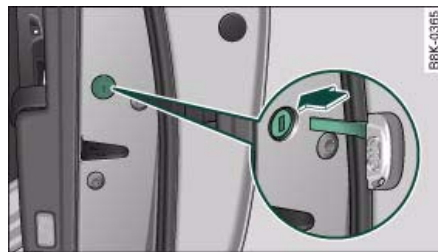

Fig. 44 Door: Locking the door manually
- Pull the cap out of the opening ⇒ fig. 44.